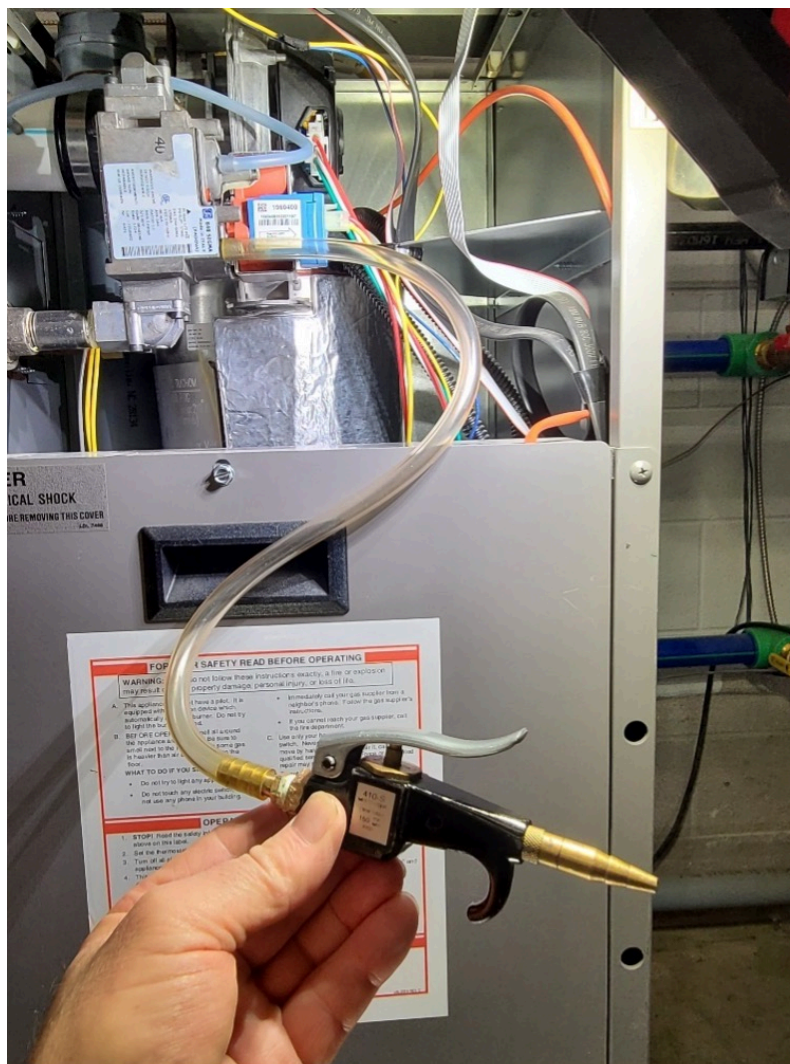

Figure 7. Purge hose with automatic shutoff release valve
The purging hose assembly must have an automatic shutoff release valve to ensure the gas outlet is monitored continuously and is not able to be left in the open position (Figure 7).
- Figure 7. “Purge hose with automatic shutoff release valve” by Rod Lidstone is licensed under a CC BY-NC-SA licence.